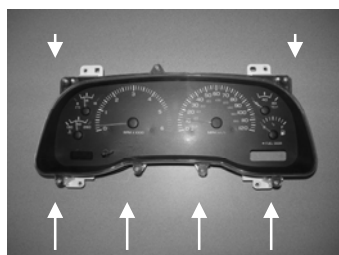

Figure 5
4. Remove the seven Phillips head screws from the front of the instrument cluster. (See figure 5)